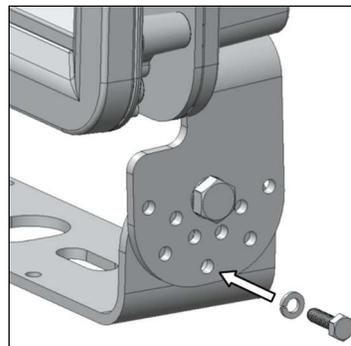

Fig.3
3. Remove the angle locking M6 bolts on both sides [Fig.3]
5. Re-install angle locking M6 hex bolts on both sides [Fig.3] suggested torque = 5 ft.lb. [6.8 Nm]
2. Secure angle locking M6 hex bolts on both sides [Fig.3] suggested torque = 5 ft.lb. [6.8 Nm]